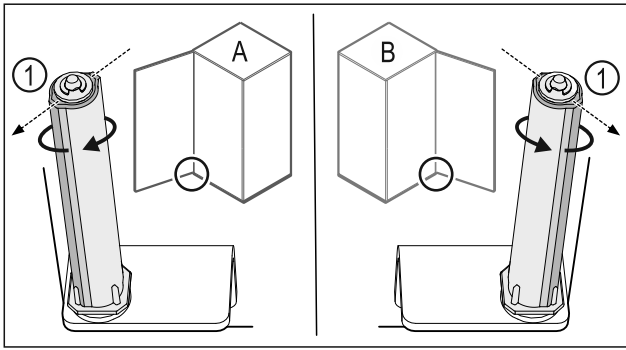

Fig. 45 Left stop (A) / right stop (B)
- Turn the locking system against the resistance until the bar on the locking system Fig. 45 (1) is pointing outwards.